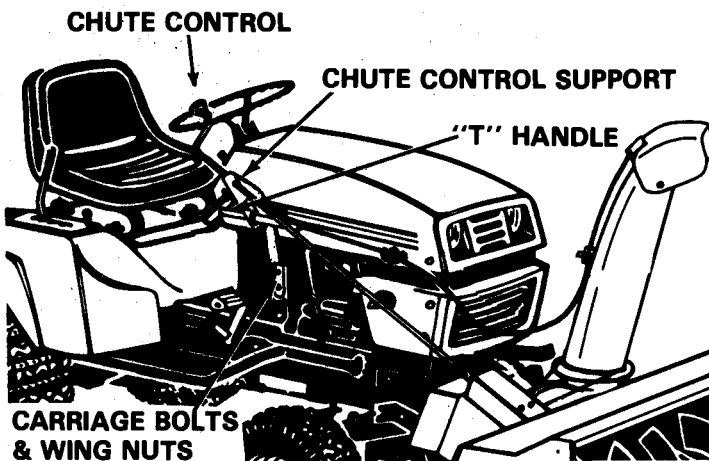
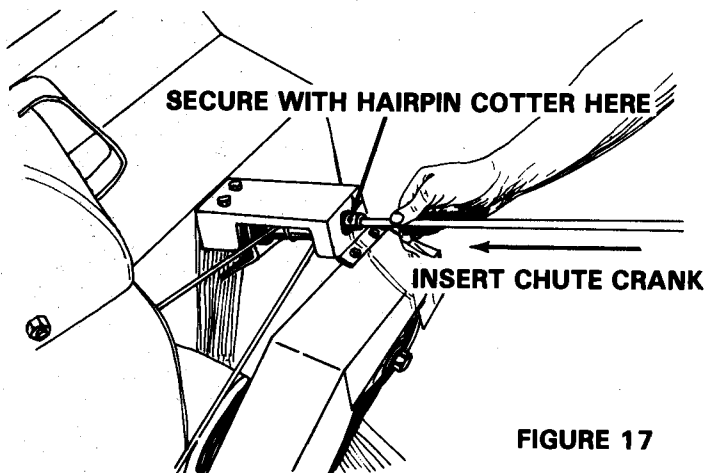

FIGURE 14
FIGURE 17
9. Attach the chute control support to the tractor steering tower as shown in Figure 14. Secure with carriage bolts, lockwashers and wing nuts provided.
9. Install chute crank through the chute crank support as shown in Figures 14 and 18. Secure lower end of chute crank in spool (See Figure 17) and insert hairpin cotter through holes in spool and in chute crank.